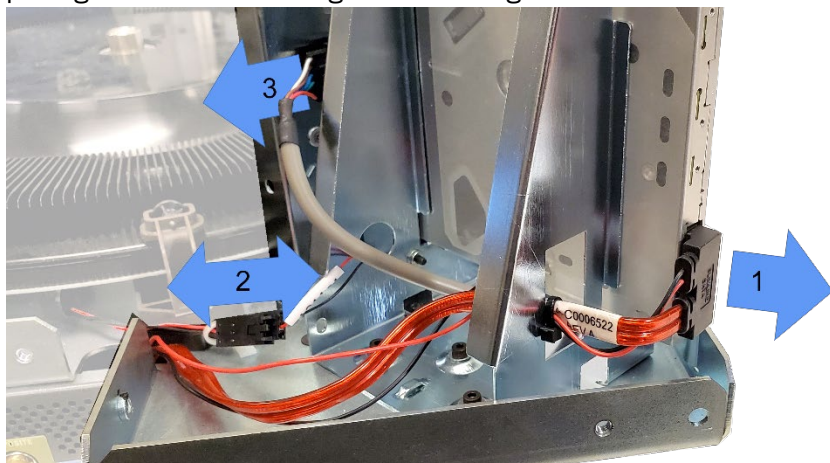

Figure 21
1. Remove the red SATA cable from the back of the disc drive by pinching both sides and pulling straight back. Push cable end through the rectangular bracket hole. See Figure 21.
2. Disconnect the two-pin motor cable by depressing the latch separating the two connectors. Push the cable end through the round bracket hole. See Figure 21
3. Disconnect the sensor board cable by depressing the latch and pulling the connector straight out. See Figure 21.